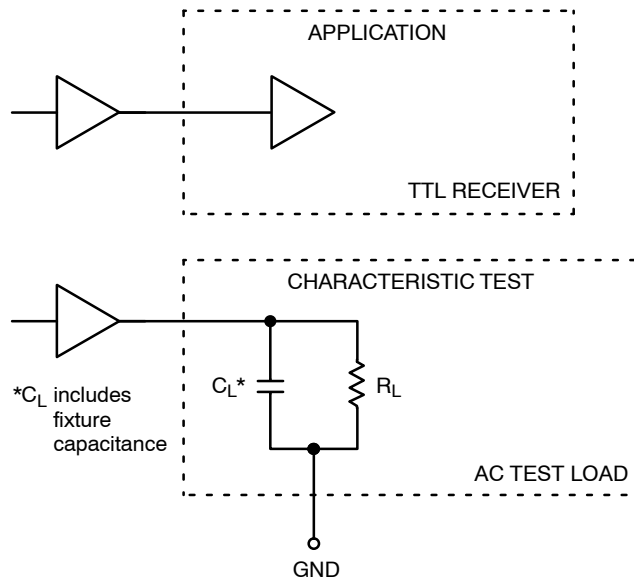

Figure 3. TTL Output Loading Used For Device Evaluation
5. Measured with a 750 mV 50% duty-cycle clock source. $R_L = 500\ \Omega$ to GND and $C_L = 20\text{ pF}$ to GND. Refer to Figure 3.